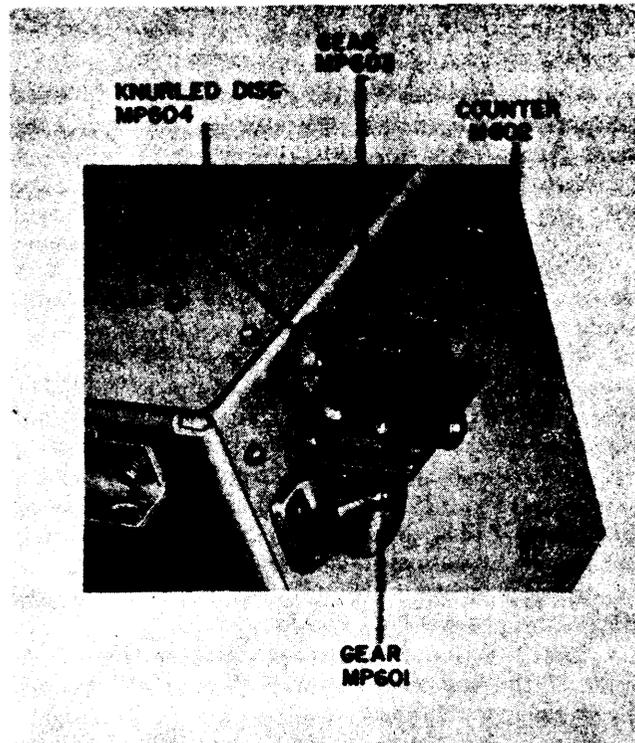

Figure 6-15. Electrical Frequency Control C-2764/WRT-2 Interpolation Oscillator, XTAL OSC Log Gearing
(1) **GENERAL.**—The only parts of the Electrical Frequency Control C-2764/WRT-2 which require any unusual disassembly or servicing procedures are the oven and the gear assembly components. Disassembly is illustrated in figures 6-15 through 6-18. All other components may be handled by standard methods and techniques. The Electrical Frequency Control C-2764/WRT-2 is prepared for servicing by withdrawing the chassis from the console. Release the six captive fasteners on the front panel and withdraw the chassis to the limit of travel. Engage the foul weather latch on upper righthand corner. Pull the locking plunger at the rear of the chassis, and rotate the chassis to a position convenient for servicing the part or assembly involved. All procedures outlined in this paragraph
Step 1. Set XTAL OSC LOG counter M602 to "000". (See figure 6-15.)